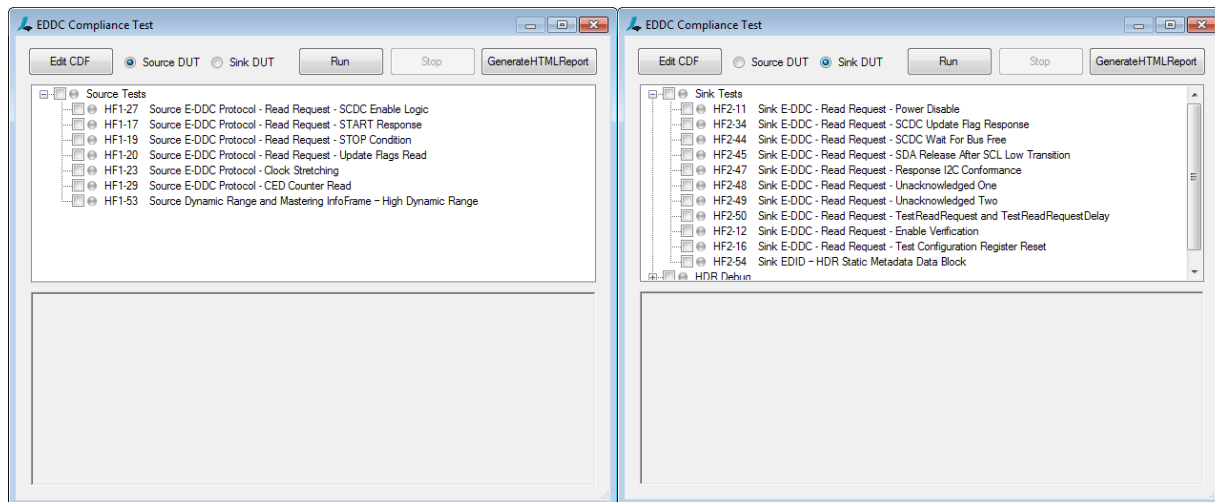

Figure 4.1. EDDC (SCDC) Compliance Test Windows
1. From the AVG software main window of your test computer (Figure 3.16), click EDDC (SCDC) Compliance Testing. The EDDC Compliance Test window appears (Figure 4.1).
4. After editing CDF variables, choose the items from the Source Tests area or the Sink Tests area (Figure 4.1). Click Run to run the selected items.
10. When the EDDC compliance test completes, you can get a report file in HTML format by clicking the Report button (Figure 4.1). Following is a sample report (Figure 4.9).